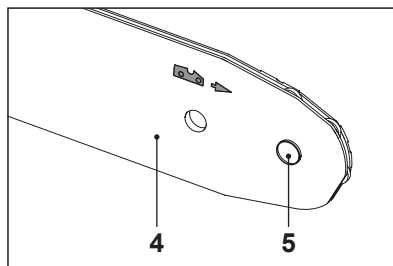

Fig. 1e
- 7). The saw chain movement is as indicated by the arrow (Fig. 1e). Make sure the saw chain (3) is properly placed over the sprocket wheel (5) of the guide bar (4).